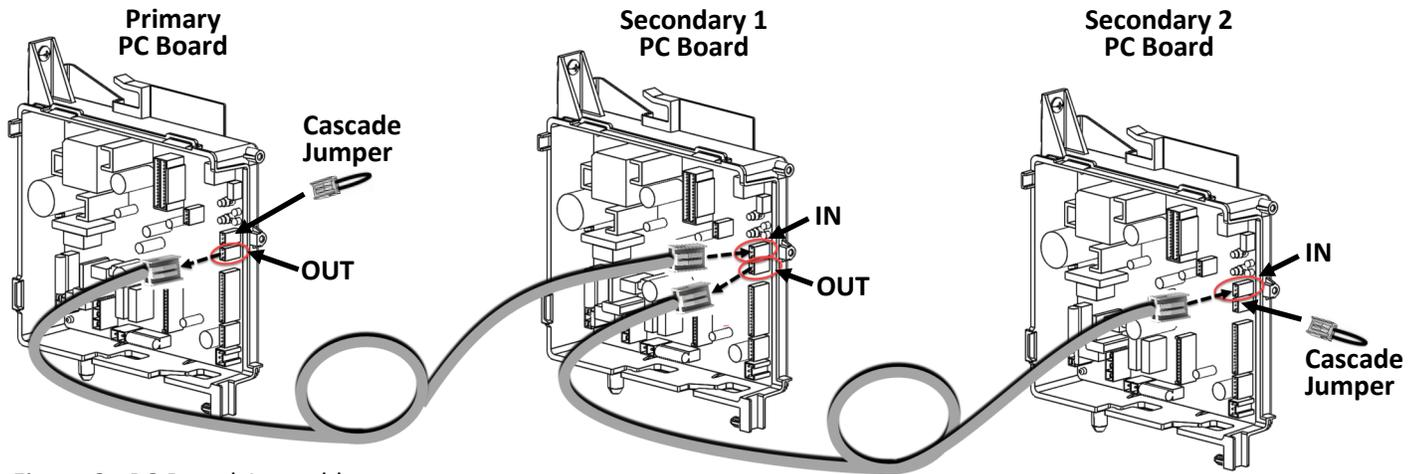

Figure 3: PC Board Assembly
4. Connect one end of the cascade cable to the **Cascade OUT** accessory port. Connect the other end of the cable to the **Cascade IN** accessory port on the PC board of the next water heater (Figure 3).
6. Connect the **Cascade Jumper** to the empty accessory ports (Figure 3):